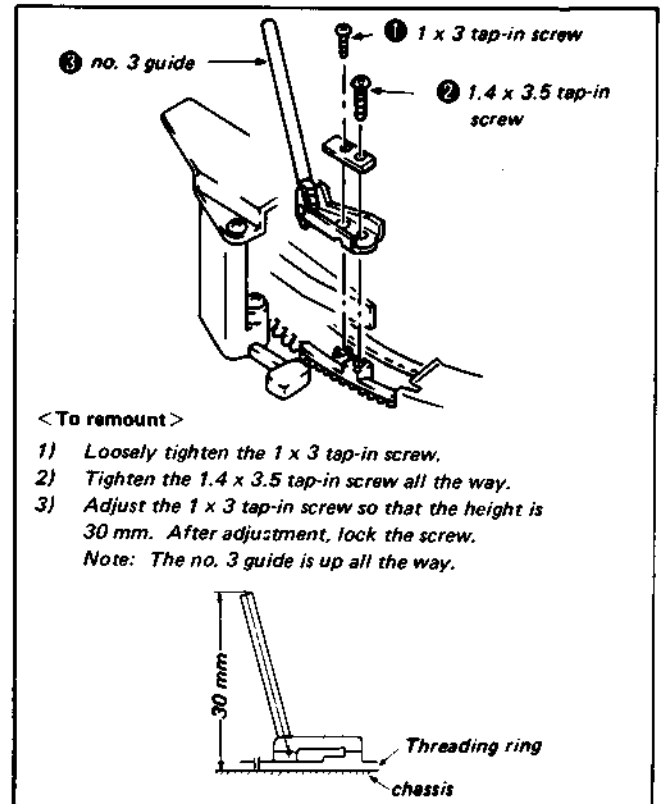

Fig. 3-21 Removal of the no. 3 guide
- 2) Check that the tension regulating lever assembly's tape guide pin is between shuttle guide 2 and shuttle guide 1-YA, as shown in Fig. 3-21.